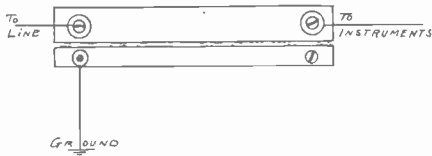

FIG. 1. SIMPLE LIGHTNING ARRESTER
(C) Fig. 1 shows connections for a lightning arrester and also the plan for same. Two strips of brass are used. The upper strip forms part of the line circuit. The lower strip is separated from the upper one by a small air space. When the line is struck by lightning the electricity jumps from the sharp points of the upper line strip, across the air gap to the grounded strip and into the earth.